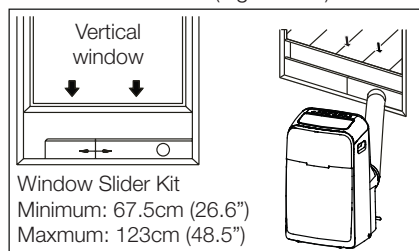

Fig. 9a
6. Affix the adaptor B into the window slider kit and seal. (Fig. 9a&9b)